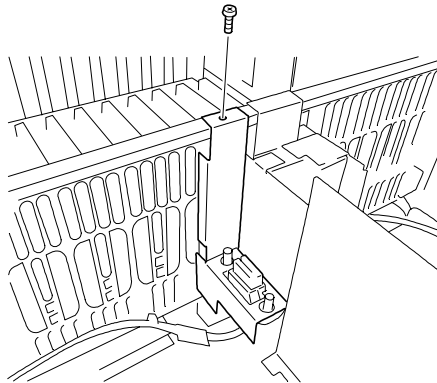

Figure 4-24. Reconnecting the Rear Fan Module Connector Bracket
- 14.** Reconnect the rear fan module connector bracket to the BSU chassis with a screw removed in a previous step, see Figure 4-24. This front fan module connector was disconnected in step 8.